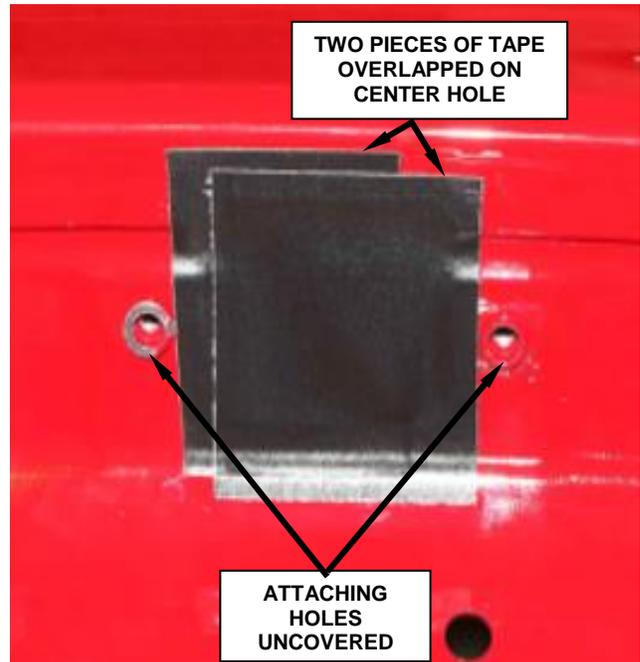

Figure 28 - Cloth Tape to Center Hole of Liftgate
7. Apply a piece of cloth tape on the left hole, as shown (Figure 28).
8. Take one piece of tape and cut it in half as shown then apply the two pieces, partially overlapped on the center hole, leaving the liftgate trim attaching holes uncovered, as shown (Figure 28).